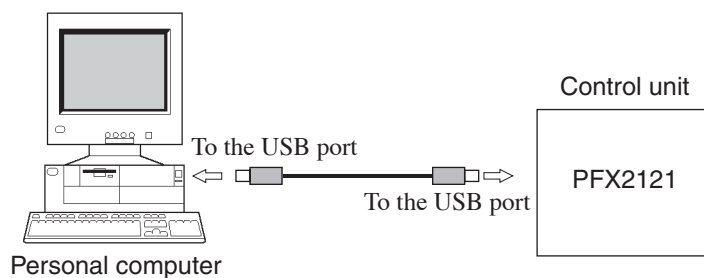

Fig. 1-14 Direct Connection to the PC
**NOTE** • It is recommended that the control unit be connected directly to the USB terminal on your PC as shown in Fig. 1-14.